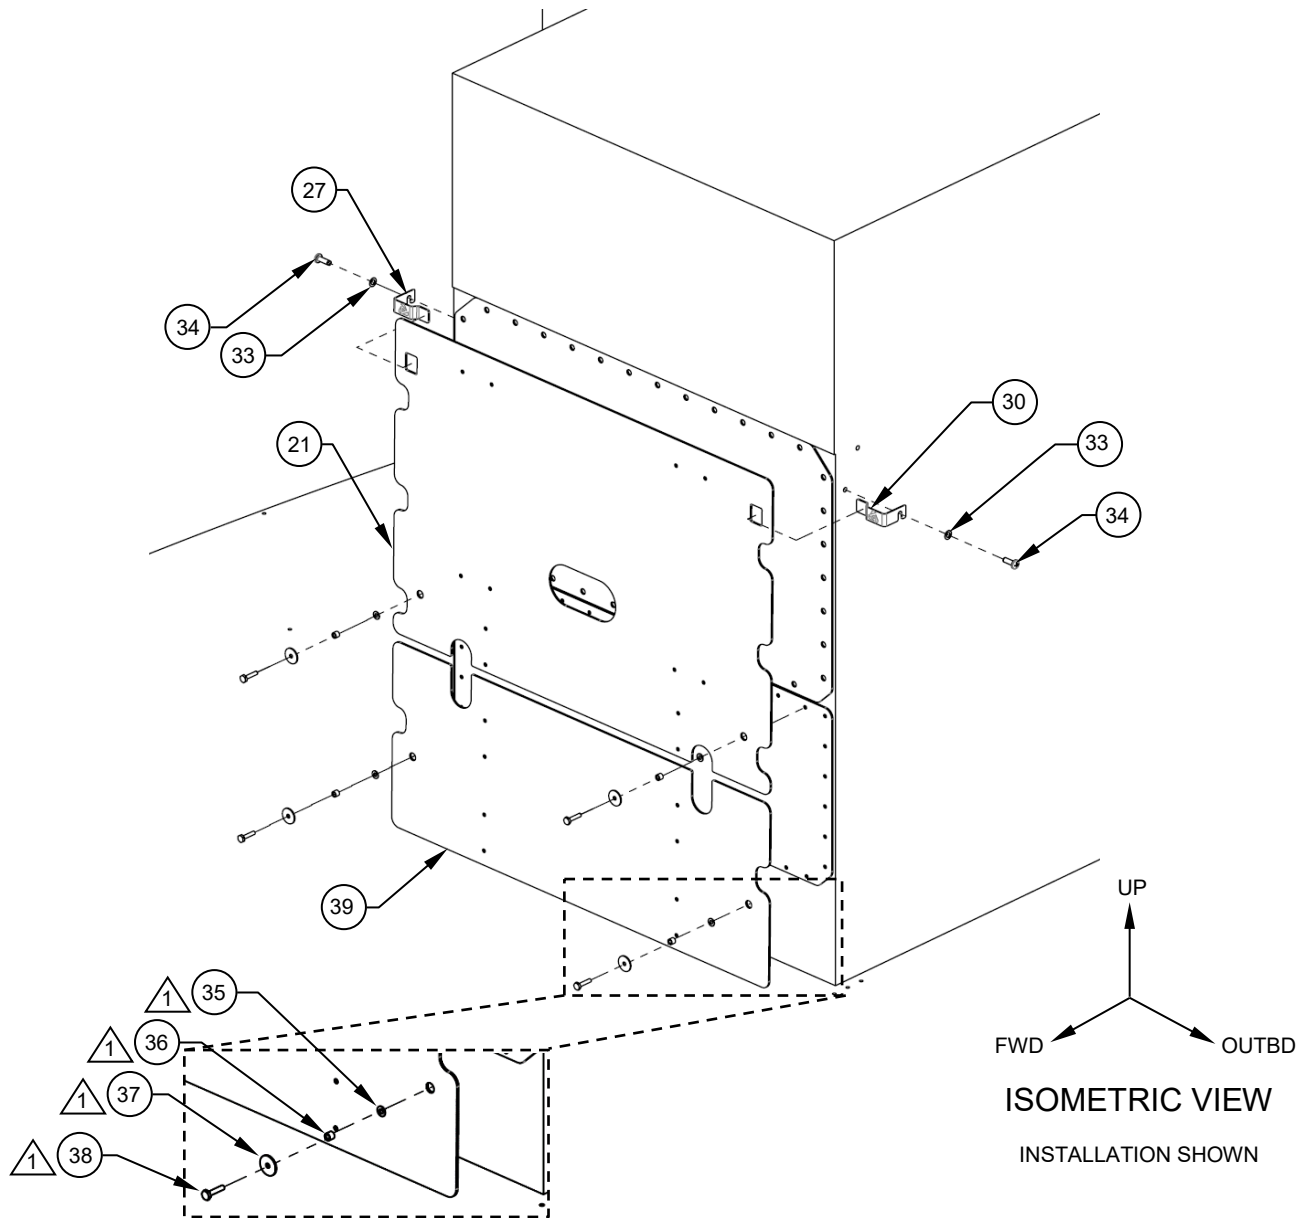

Figure 5
3. Pre-fit the FWD Pylon Panel Protector, Upper and Lower Assys (Items 21 & 39), with respect to the mounting fastener locations and the inspection window on the structural panel. Ensure the inspection window is located on the center of the cut-out. Temporarily install using supplied Clip, Assys (Items 27 & 30) and hardware, (Items 33 – 38). Reference Figure 5.
4. With the FWD Pylon Panel Protector, Upper and Lower Assys (Items 21 & 39) lined up use the pre-cut .20" holes and a felt pen to mark out the locations for the Velcro®, Details (Items 25 & 26) and remove the FWD Pylon Panel Protector, Upper and Lower Assys (Items 21 & 39). Reference Figure 5.
8. Re-install the FWD Pylon Panel Protector, Upper and Lower Assys (Item 21 & 39), using supplied Clip, Assy (Items 27 & 30) and hardware, (Items 33 – 38). Reference Figure 5.